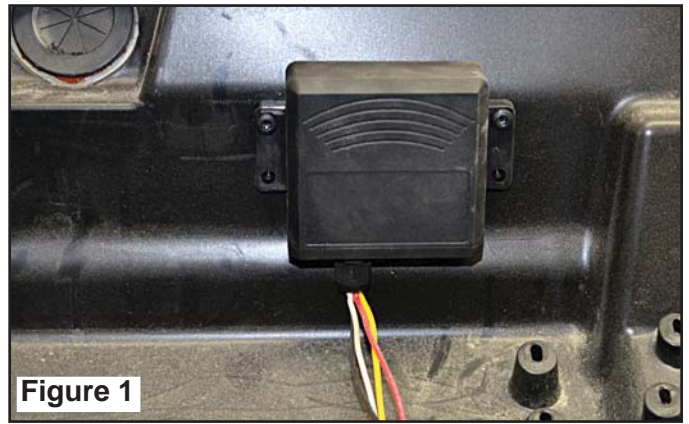

Figure 1
2. Using two screws (PN 7512026), secure the wireless remote receiver box to the plastic wall underneath the hood and to the right of the wire routing grommet as shown in Figure 1. No pre-drilling is necessary.